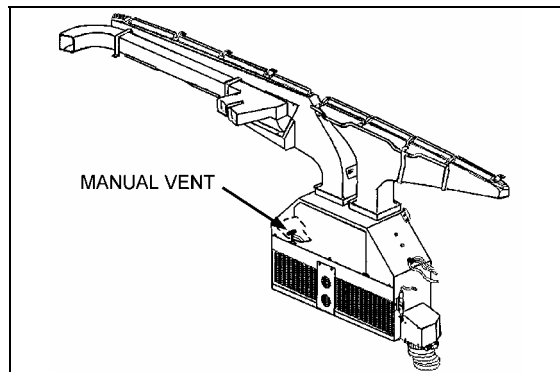

FIGURE 37: DRIVER'S HVAC UNIT 22171
4. From inside of vehicle, remove the grill and the access panels. Open the manual vent located inside the HVAC unit on the driver's side (Fig. 37) to ensure an efficient draining.
Whenever the heating system has been drained and refilled, or the system has run low on coolant and coolant has been added, it is necessary to bleed air from heating system. Locate the manual vents illustrated in Figures 37